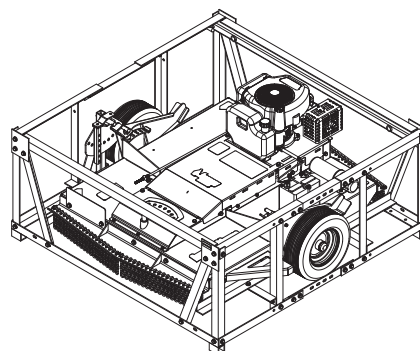

FIGURE 3: YOUR NEW MOWER AS IT IS SHIPPED TO YOU
1. Remove any loose parts or packaging, from the crate. **SEE FIGURE 3**